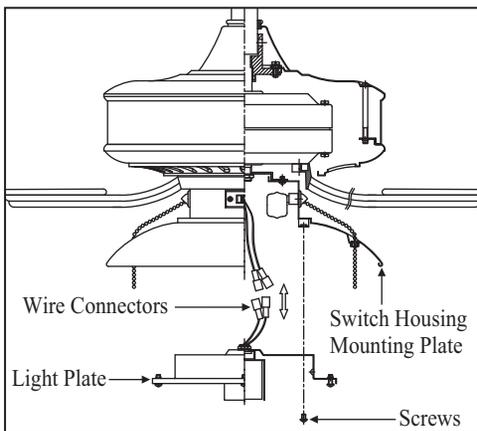

Figure 19
2. While holding the light plate under your fan, connect the white wire connectors from the light plate and switch housing, follow the same procedure with the black wire connectors. (Fig. 19)
3. Carefully push all wires back into the switch housing. Place the key holes on the light plate over the 2 screws previously loosened from the switch housing mounting plate, turn the light kit assembly until it locks in place at the narrow section of the key holes. Secure by tightening the 2 screws previously loosened and the one previously removed. (Fig. 19)